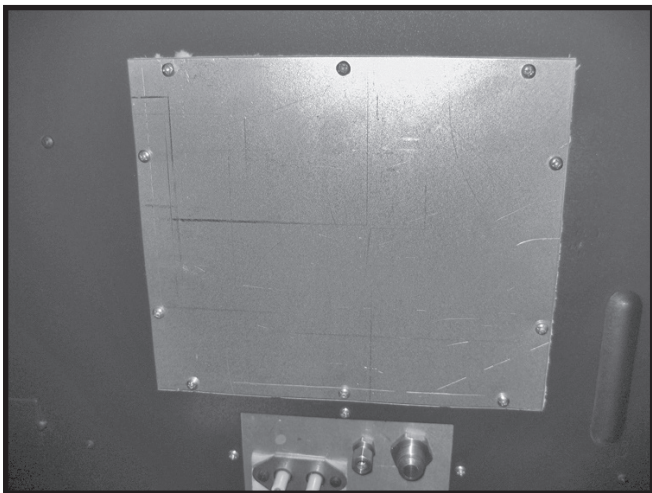

Figure 2: Access cover to valve control center.
1. Remove the cover to the valve control center located on the inside right of the firebox (Figure 2).
9. Close up the valve control center by installing the cover (Figure 2 on page 2).